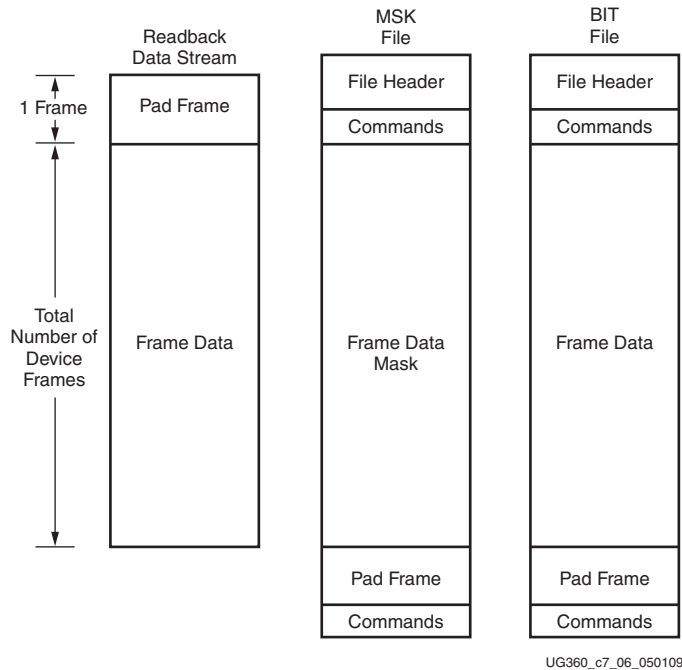

Figure 7-5: Comparing Readback Data Using the MSK and BIT Files
2. Compare readback data to the configuration BIT file, mask using the MSK file (see Figure 7-5).